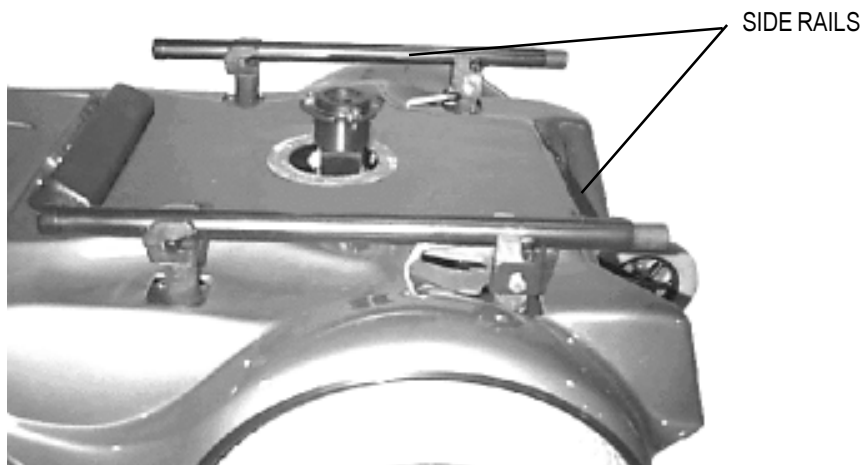

FIGURE 25.
3. Install the side rails into the seat towers with the release buttons facing forward. See figure 25.